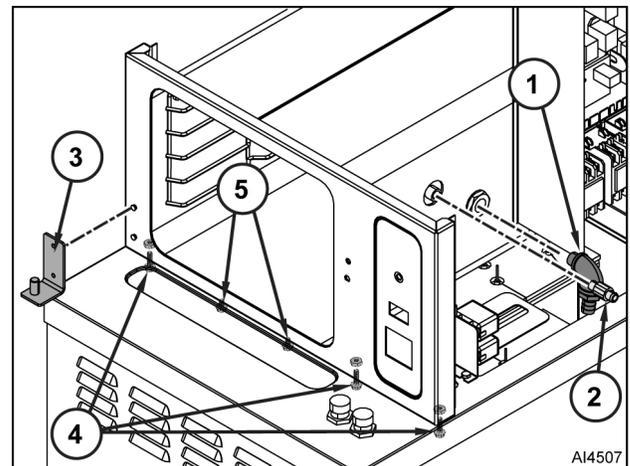

Fig. 48
6. Remove lower hinge (3, Fig. 48) from front panel.
7. Remove bolts / nuts (4) and screws (5) that secure cooking compartment front panel to frame.
8. Remove vacuum breaker (2).
10. Remove steam port inlet fitting (1).